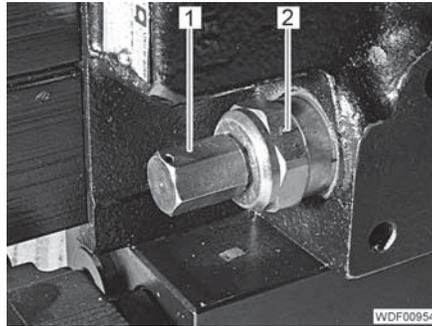

Fig. 183 Primary pressure control valve
- Unscrew the cap (Fig. 183,1).
- Unscrew the primary pressure control valve (Fig. 183,2).
- Screw in the primary pressure control valve (Fig. 183,2) and tighten hand-tight.
- Fit the cap (Fig. 183,1) onto the primary pressure control valve and tighten it hand-tight.